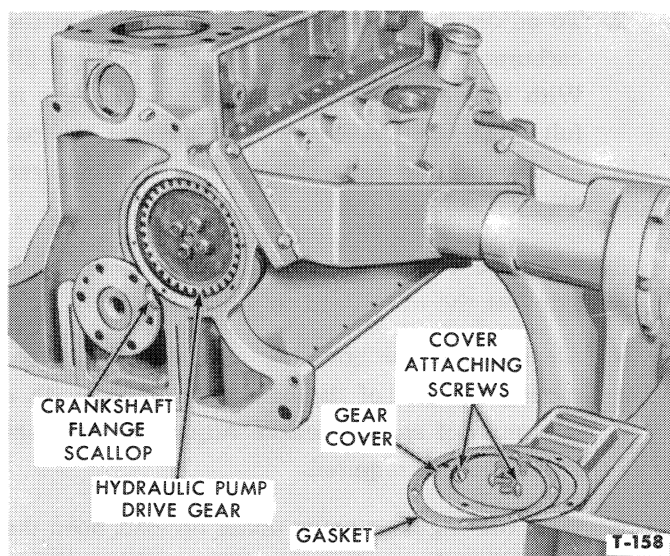

Figure 70—Hydraulic Pump Drive Gear and Related Parts
4. Remove the hydraulic pump drive gear cover, gasket and the pump drive gear from the rear of the camshaft, Figure 70.